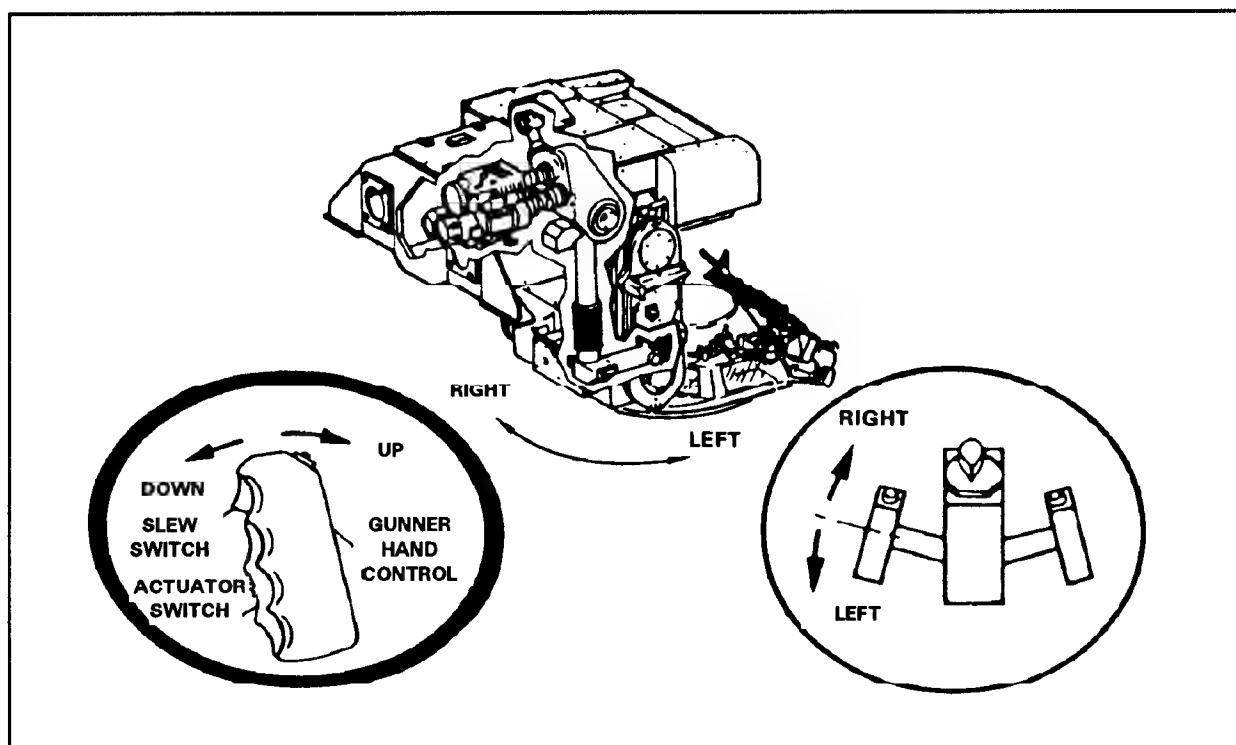

Figure 4-4. Gunner's hand controls.
(1) To traverse the turret (Figure 4-4), the gunner squeezes the action and slew switches and rotates the GHC counterclockwise until the turret azimuth indicator reads almost 0 degrees. The AZ LOAD indicator will light (Figure 4-4).